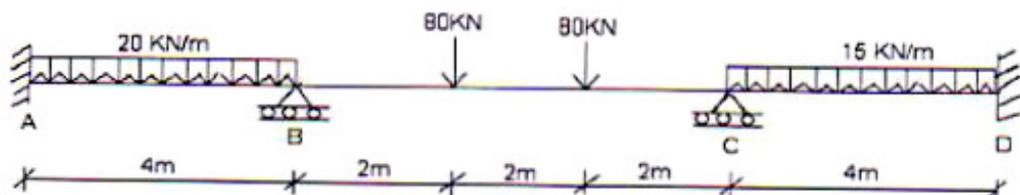

Figure 2
7. Analyze the Continuous beam loaded as shown in Figure 2, by using Slope Deflection Method and draw B.M.D